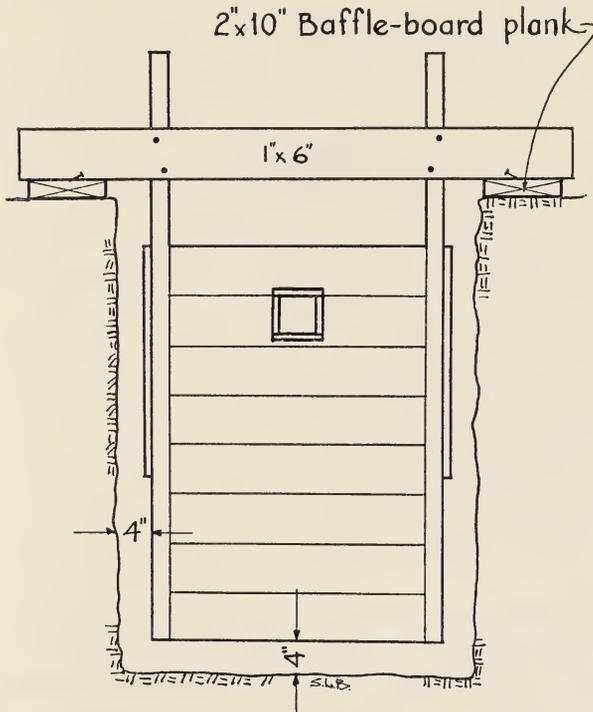

Fig. 12.—End view of completed form suspended in the hole.
*Hanging the Form.*—For convenience in setting the form in position, the studding *A* (figs. 5 and 11) should project 2 feet above the top edge of the wall sheathing. After being lowered into the hole, the form should be blocked up level to allow for a 4-inch bottom of concrete, and squared up in the hole so that all walls will be of the same thickness. Next, 1 × 6 inch hanging boards (fig. 12) are nailed firmly to the 2 × 4 studding *A* and to the 2 × 10 inch plank frame that was placed about the top edge of the hole. The blocking is then removed, and the form is ready for the concrete.